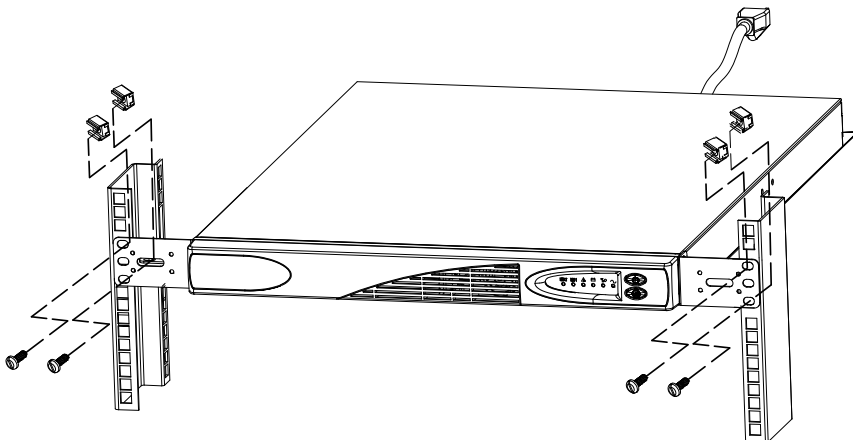

Figure 12. Securing the UPS in a 23" Rack
4. Secure the front of the UPS to the rack using the supplied hardware (two M6 × 10 screws and two clip nuts on each side, as shown in Figure 12).